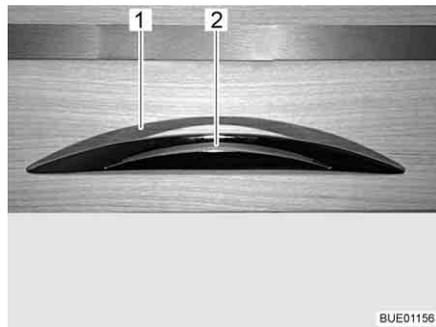

Fig. 42 Furniture flap with release handle
- Press the release handle (Fig. 42,2) and hold it down.
- Pull the release handle (Fig. 42,1) until the furniture flap is open.